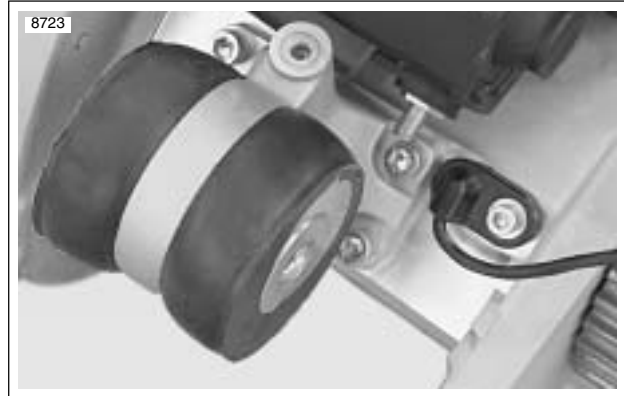

Figure 3-131. Rear Isolator Assembly
7. See Figure 3-131. Remove rear isolator assembly by removing the forward two fasteners first and then the two rear fasteners (re-install with new fasteners).